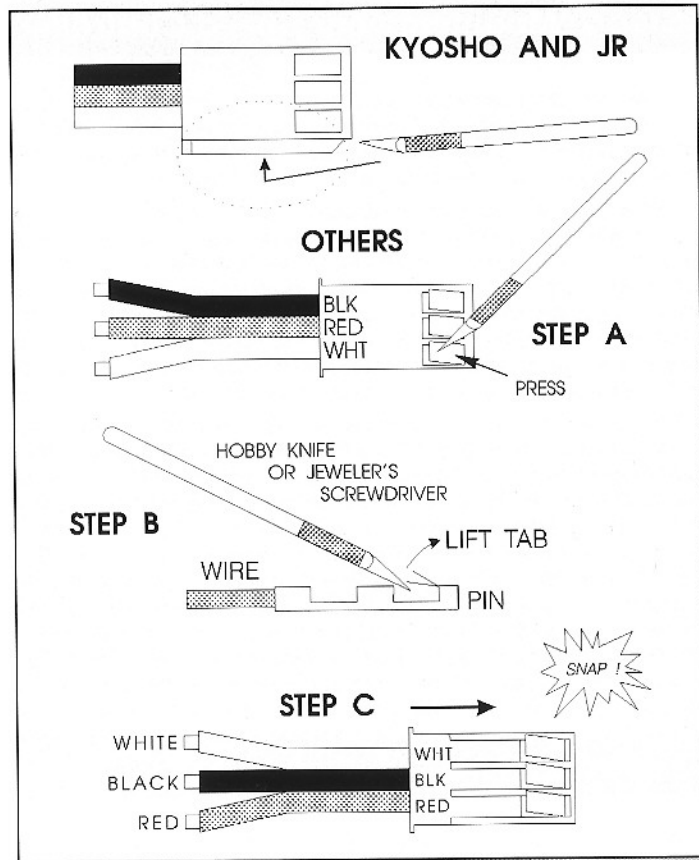

FIGURE 1-1
The standard connector supplied with the 410K is for use with receivers using Tekin or Futaba J-type plugs. This plug is used on all newer Futaba radio systems. If you have a Tekin or a newer Futaba receiver, the plug included with the 410K will fit without modification. Use of the 410K with Airtronics/Sanwa, Hi Tec, JR and Kyosho R/C systems requires that you change or modify the plastic plug housing. When using a JR or Kyosho radio, trim the plastic tab off the standard FUT J housing as shown in figure 1-1.
- 1) Make sure no battery is connected to the speed control. Using a hobby knife, or a small jeweler's screwdriver, press the three metal tabs holding the red, black and white wires into the Futaba "J" plug already attached to the speed control (Figure 1-1, step A). Press the metal tabs only far enough that each of the wires can be removed from the black plastic receiver plug housing.
- 2) After removing the wires from the receiver plug, using a hobby knife or jeweler's screwdriver, bend the metal tabs on each of the wires back to their original position (figure 1-1, step B), so they will hold the wires in place when the proper receiver plug housing is installed.
- 3) Select the receiver plug that matches your radio system. Airtronics and Sanwa radio systems use the plug housing marked "AIR," and KO Propo systems use the plug marked "KO" (Figure 1-1, step C).